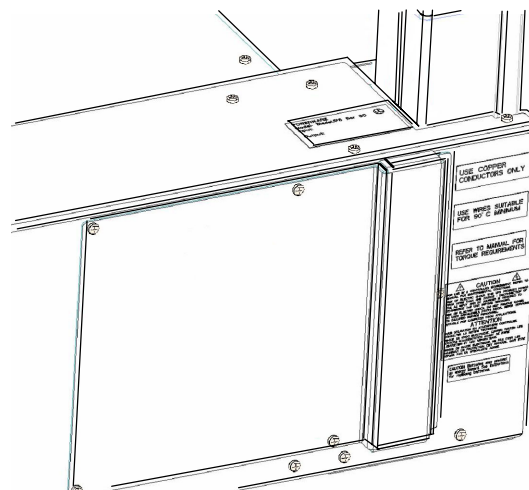

Figure 10. Wireway Labels
20. Verify the six information labels are attached to the wireway as shown in Figure 10.